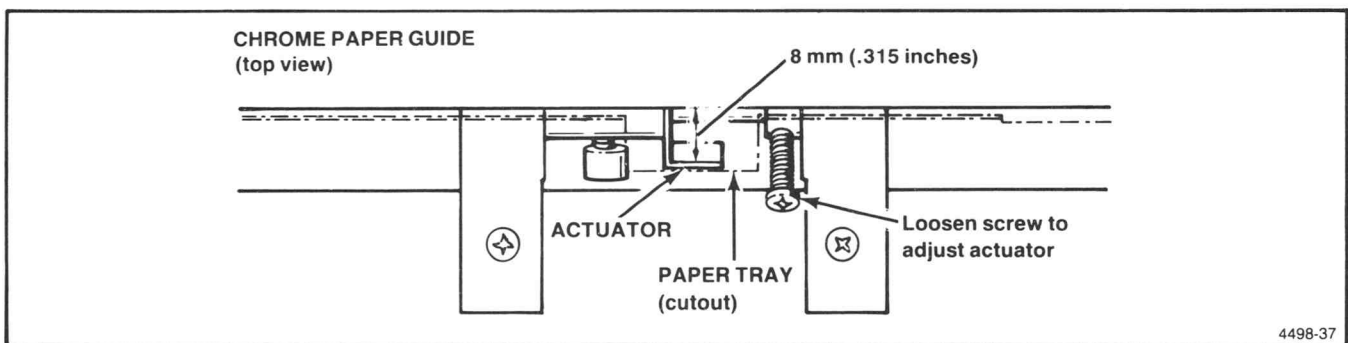

Figure 5-19. Paper Tray Sensor Adjustment Locations.
2. Loosen (but do not remove) the screw shown in Figure 5-19.
3. Position (1) the top of the actuator 8 mm (.315 inches) from the chrome paper guide and (2) the head of the screw loosened in Step 2 on the frame underneath.